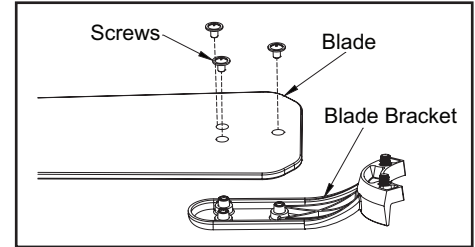

Figure 14
1. Attach blade to blade bracket using screws shown in Figure 14. Please note that the rubber washers are preattached to the blade bracket. Start a screw into the bracket. Repeat for the two remaining screws.